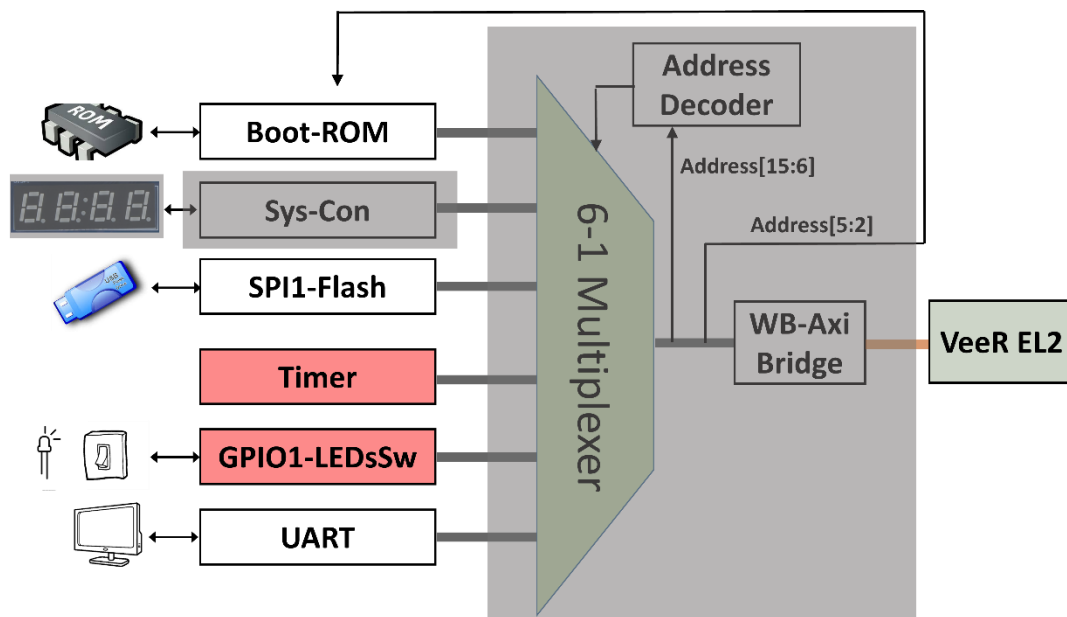

Figure 5. 4-digit 7-segment displays controller analysis in 3 phases
1. Connection between the SoC and the I/O device on the board (left shadowed region in Figure 5);
2. Integration of the new controller, which is included inside the VeeRwolfX System Controller contained in the SoC (middle shadowed region in Figure 5);
3. Connection between the new controller and the VeeR EL2 Core (right shadowed region in Figure 5).
As described in Lab 6, the device controllers are connected to the VeeR EL2 Core using a multiplexer (see Figure 5). Remember that the 6:1 multiplexer (Figure 10) is instantiated in file `[RVfpgaBasysPath]/src/VeeRwolf/Interconnect/WishboneInterconnect/wb_intercon.v`. Then, the **wb_intercon** module is instantiated in file `[RVfpgaBasysPath]/src/VeeRwolf/Interconnect/WishboneInterconnect/wb_intercon.vh`. This latter file is included in the **veerwolf_core** module located here: `[RVfpgaBasysPath]/src/VeeRwolf/veerwolf_core.v`.